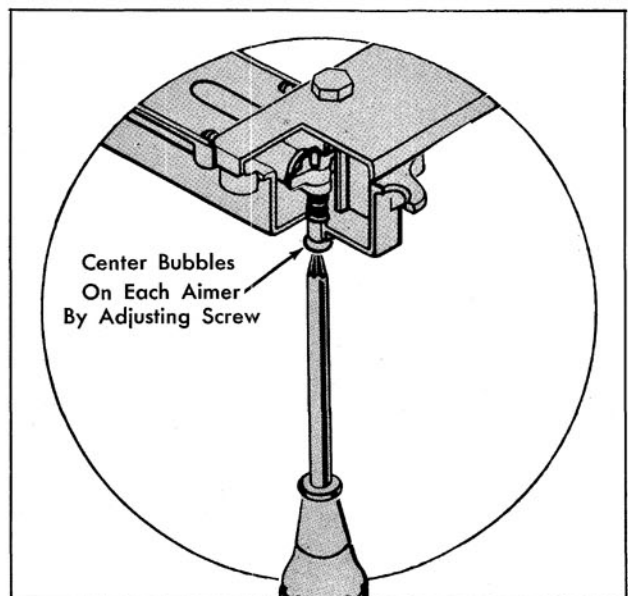

Fig. 13-97 Adjusting Aimer
3. Without moving the car, recalibrate aimers by turning the adjusting screw until bubble is centered. (Fig. 13-97)
2. If the bubble is not centered, adjust the screw on the bottom of the aimer, Fig. 13-97, until the bubble is centered. The aimer is now calibrated vertically.